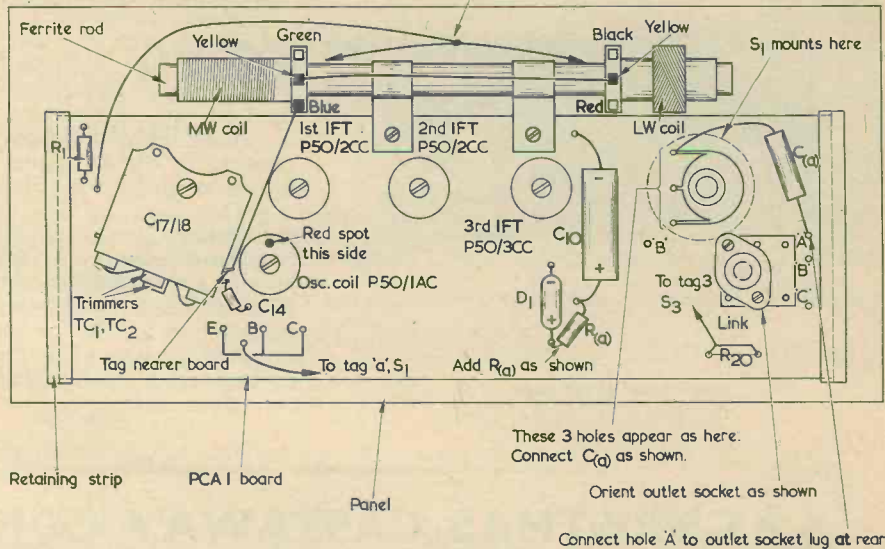

Fig. 4. The general layout, together with additional wiring and components
(1) Commence by fitting C_{17} , C_{18} in the space marked for them, and checking that neither of the bolt heads fouls the negative line. Fit the i.f. transformers, noting that the third one differs in type from the other two. Also fit the oscillator coil but, before soldering in position, make certain the red spot painted on it agrees with the instruction printed on the board (see also Fig. 4).
(2) Fit the rotary switch in the hole provided originally for a volume control.
(3) Fit a coaxial output socket as shown in Fig. 4, using either 8BA nuts and bolts or enlarging the holes to take 6BA types.
(4) Solder a link wire between the two holes marked "R20". This will connect the output socket casing to the positive line. Check the printed wiring to ensure that this connection is correctly made.
(5) Solder in all resistors where indicated on the board up to and including R_{11} .
(6) Solder in all capacitors where marked on the board up to and including C_{10} , ignoring all + and - signs except for C_3 and C_{10} , which observe.
(7) Enlarge slightly the hole provided for D_1 + and insert in it the red lead of the diode together with one lead of $R_{(a)}$. Solder both to the board
(8) Solder the free end of $R_{(a)}$ to $C_{10}+$.
(9) Locate the hole originally provided for the volume control tag nearest the edge of the board (see Fig. 4) and solder in one lead-out wire of $C_{(a)}$.
(10) Locate the hole marked "A" near the output socket and solder in the free end of $C_{(a)}$. Also solder a short lead therefrom to the output socket centre tag. Ensure that the copper at hole "A" does not connect to any of the circuit as now used.
(11) Fit C_{14} where marked on board (see Fig. 4) close to the oscillator coil, checking that it does not foul the metal can.
(14) Fit C_{16} and anchor one end by using the hole marked "B" on the board and in Fig. 4. It should be noted that it might be necessary to modify the value of this capacitor slightly later. Ensure that the copper at hole "B" does not connect to any of the circuit as now used.
(15) Run a lead from hole "B" to C_{14} (already fitted) on the copper side of the board.
(16) Solder in transistors T_1 , T_2 , T_3 exactly as marked on the board. Use heat shunts.
(17) Locate a small hole between "E" and "B", T_1 (see Fig. 4) and run a lead from this point to S_1 , tag (a). Check the copper circuit to ensure that the connection at this hole is common to the base of T_1 .
The completed tuner unit. Compare with Fig. 4 above